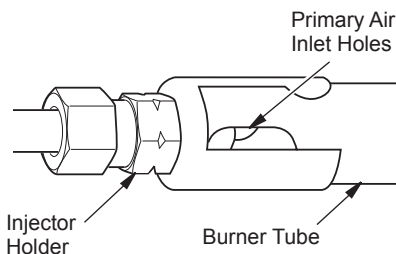

Figure 35 - Injector Holder On Outlet Burner Tube
2. Inspect burner, pilot and primary air inlet holes in rear burner for dust and dirt (see Figure 35).